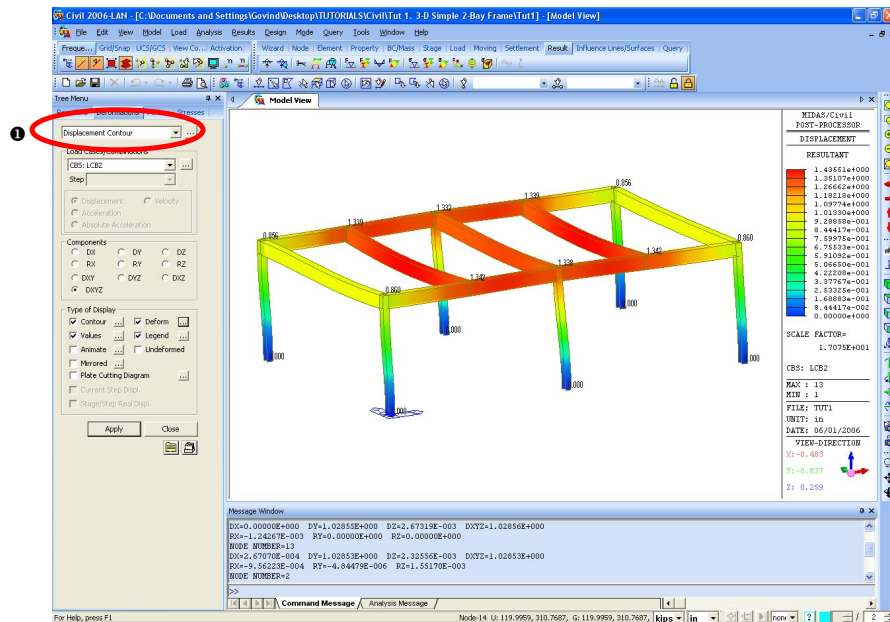

Figure 1.29 Deformed Shape (Contour lines)
1. Select **Displacement Contour** from the functions selection field (Fig.1.29–①).
2. Select “**DS:LCB2**” from the **Load Cases/Combinations** selection field. ②
The Gradation method is a tool to smoothen the contour distribution shown in Fig.1.29. In addition, the model is displayed in *Perspective View*.